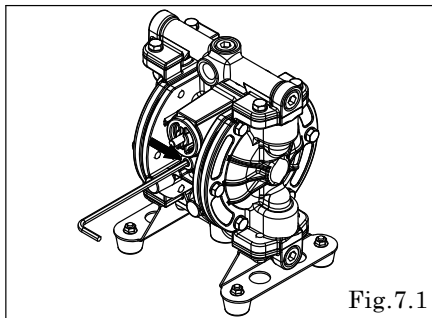

Fig. 7.1
- Loosen the plug with hexagonal box wrench and remove remaining air from inside the pump. [Fig. 7.1]